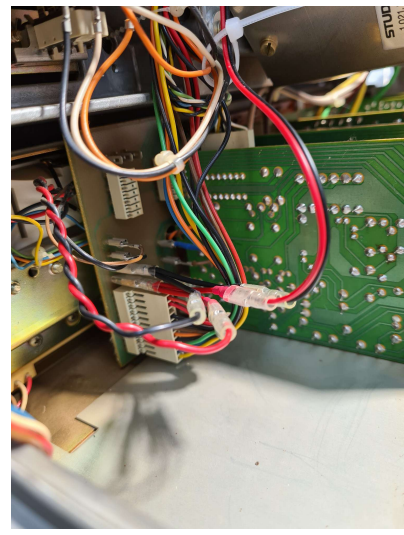

Figure 10
- Connect the adapter to the base board. (Figure 10)